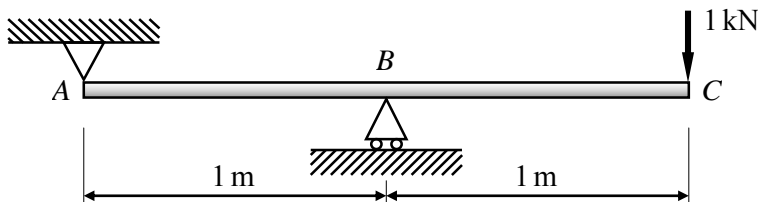

Figure Q2: A beam under load.
b) A beam is propped between pinned supports at *A* and *B* and is subjected to a vertical tip load of 1 kN at *C* as shown in Figure Q2. The beam is made of aluminium alloy with a Young's modulus of 70 GPa and a solid square cross-section measuring 30 mm × 30 mm.